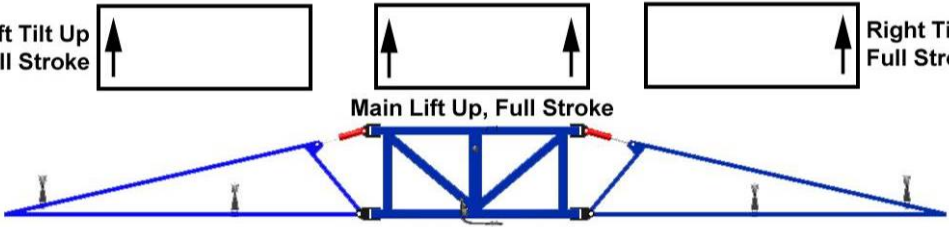

Figure 4: Pre-Install Boom Speeds
5. Not all sprayers will have the functions listed below in **Figure 4**.